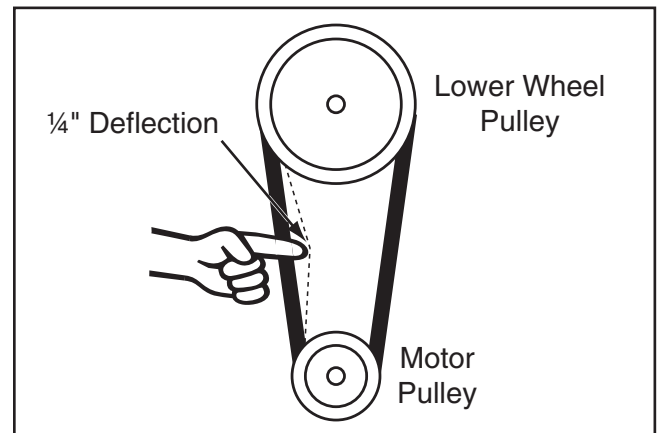

Figure 93. V-belt deflection.
4. Check V-belt tension by applying moderate pressure between pulleys (see **Figure 93**).